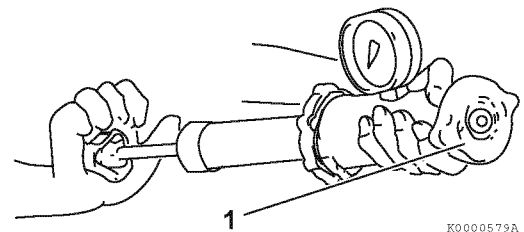

Figure 8-12
1. Check for proper operation of the radiator cap. Install the radiator cap (1, Figure 8-12) on a cooling system tester.